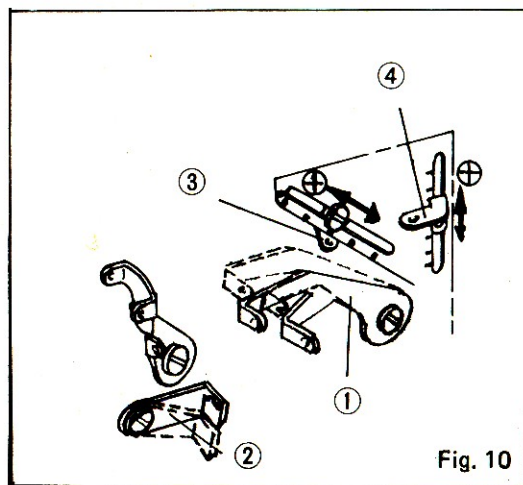

Fig. 10
(3) Looper Thread Control Fig. 10
- For sewing type 512, when Upper Looper is extremely left, push Takeup ① and ② at the position as the chain line (— — —).
- In case of sewing type 503, 504, & 505, when Upper Looper moves to lowest, set Takeup ① and ② at the position as the continuous line (———)
- Adjust Thread Guide ③ as follows.
Control hilo-án cora. Fig. 10
Contrôle du fil du boucleur Fig. 10